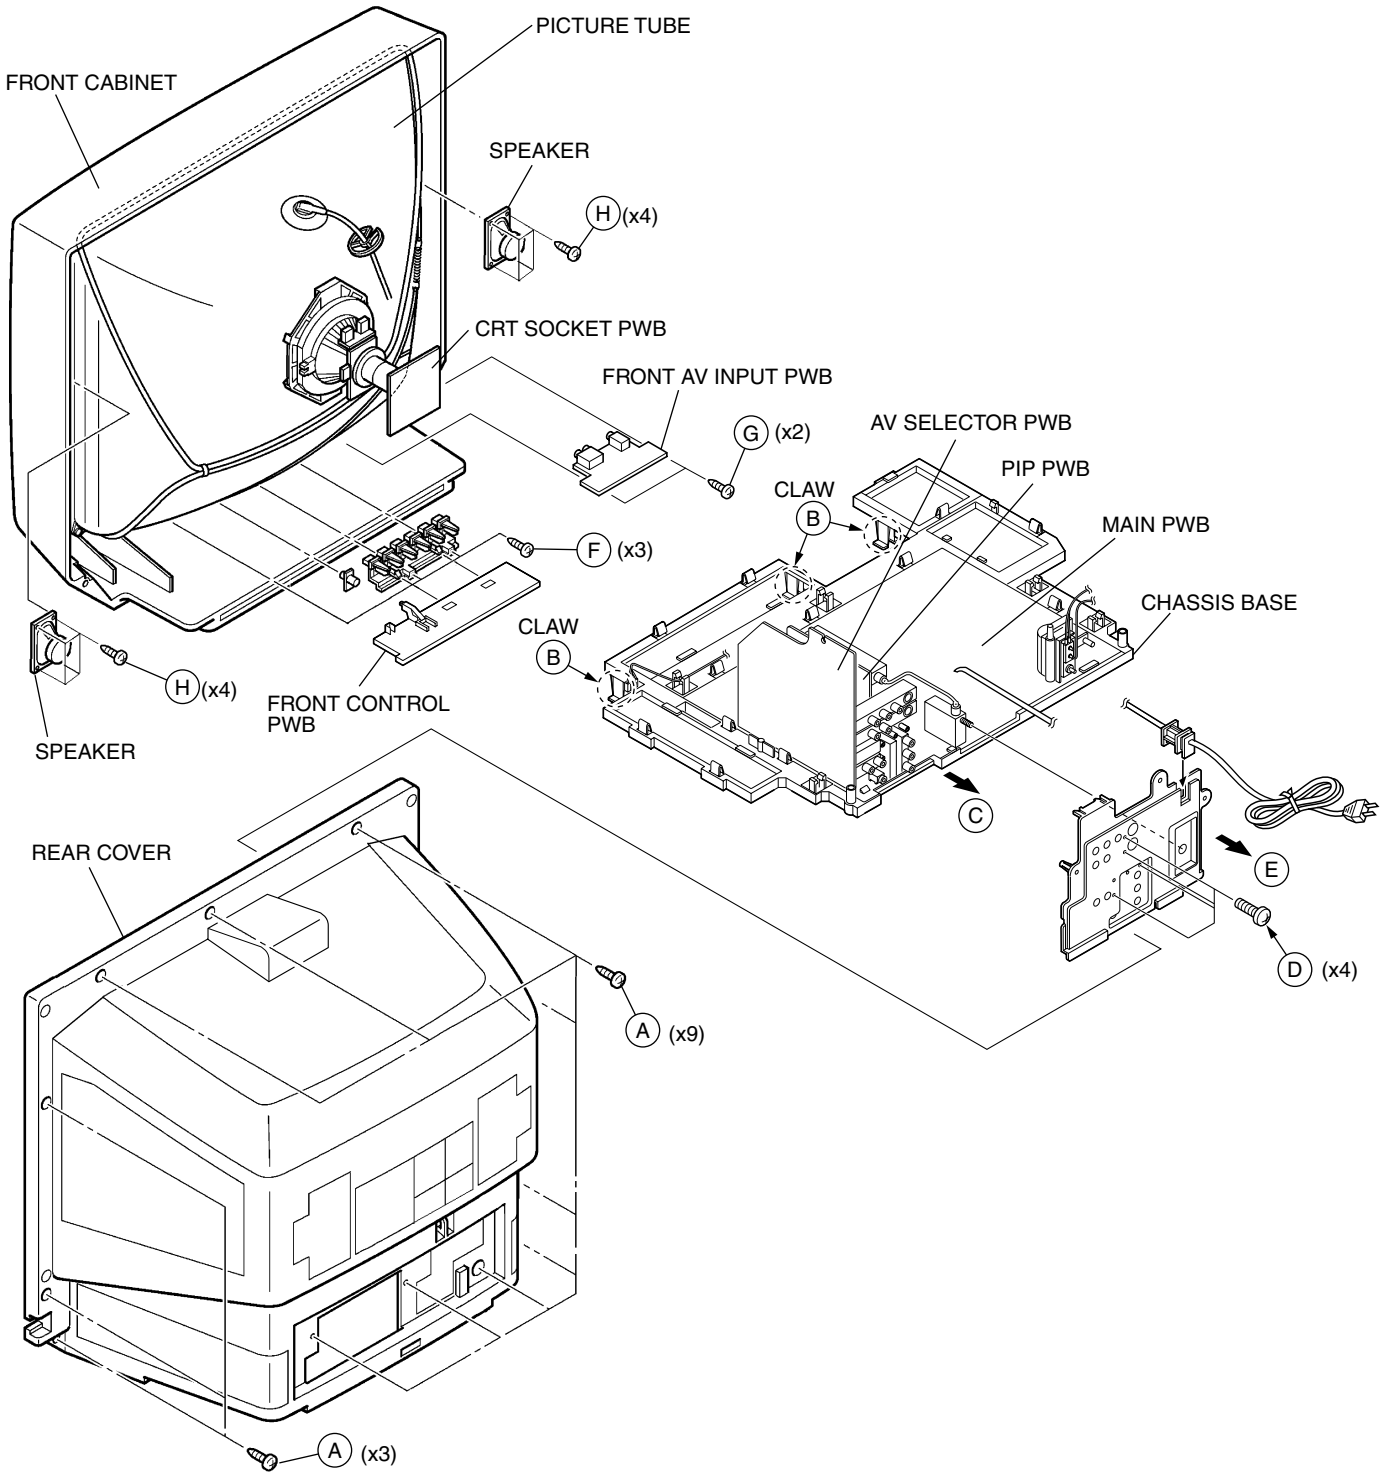

Fig.1
2. Remove the 12 screws marked (A) as shown in Fig.1.
1. Slightly raise the both sides of the chassis by hand and remove the 3 claws marked (B) under the chassis from the front cabinet as shown in Fig.1.
2. Withdraw the chassis backward along the rail in the arrow direction marked (C) as shown in Fig.1.
1. Remove the 4 screws marked (D) as shown in Fig.1.
2. When you pull out the TERMINAL BOARD in the direction of arrow marked (E) as shown in Fig.1, it can be removed.
1. Remove the 3 screws marked (F) and the 2 screws marked (G) as shown in Fig.1.
1. Remove the 4 screws marked (H) as shown in Fig.1.
<p>(4) System constant check and setting</p> <ol style="list-style-type: none"> 1) Press SLEEP TIMER key and, while the indication of "SLEEP TIMER 0 MIN." is being displayed, press DISPLAY key and VIDEO STATUS key on the remote control unit simultaneously. 2) The SERVICE MENU screen of Fig.1 is displayed. 3) While the SERVICE MENU is displayed, again simultaneously press the DISPLAY and VIDEO STATUS keys to display the Fig.2 SYSTEM CONSTANT screen. 4) Refer to the SYSTEM CONSTANT table and check the setting items. Where these differ, select the setting item with the MENU UP/DOWN key and adjust the setting with the MENU LEFT/RIGHT keys. (The letters of the selected item are displayed in yellow.) 5) After adjusting, release the MENU LEFT/RIGHT key to store the setting value. 6) Press the EXIT key twice to return the normal screen. 	 <p style="text-align: center;">Fig.1</p>
<p>(7) SERVICE MENU setting Verify what to set in the SERVICE MENU, and set whatever is necessary.(Fig.1) Refer to the SERVICE ADJUSTMENT for setting.</p>